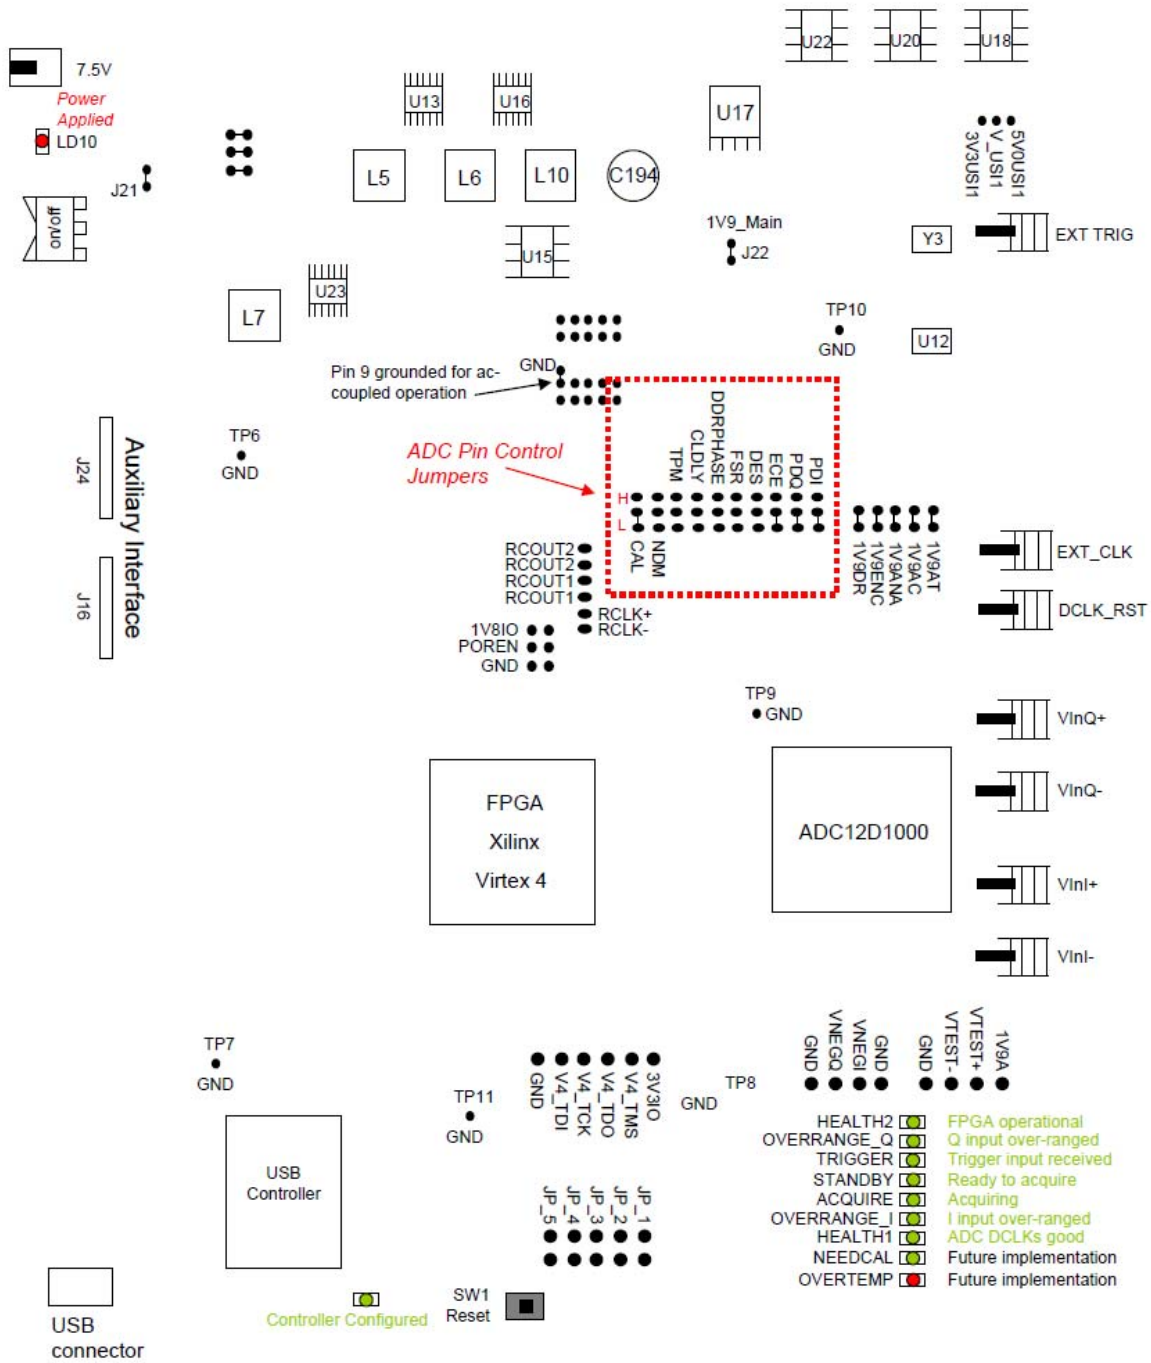

Figure 2: Jumpers and LEDs
2. Make sure the board's jumpers are configured as follows as shown in Figure 2:
Prior to capturing data, confirm that the board is in the "ECE (Extended Control Enable)" mode. The ECE jumper is located in the ADC pin control jumper area as shown in Figure 2. The board should be sent with this jumper in place. This means that the ADC will be controlled through the SPI interface and not with jumpers driving the control pins. This allows the user to control the ADC's behavior through the WaveVision 5 Registers panel.